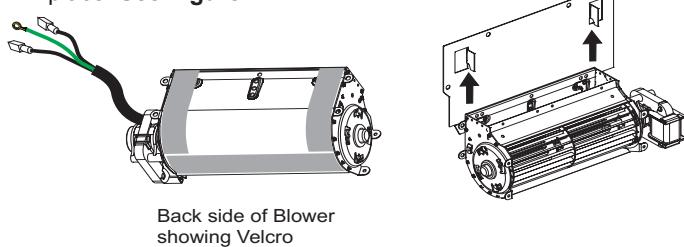

Figure 14
11. Install the blower onto the pre-bent brackets on the blower plate. Ensure the Velcro connects to secure the blower in place. **See Figure 14.**